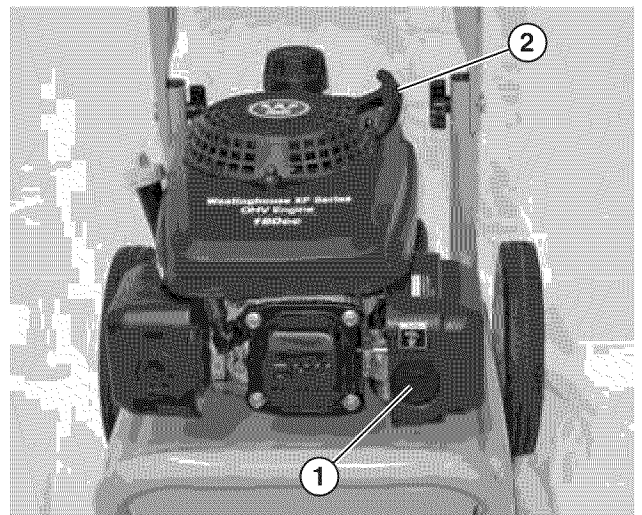

Figure 37 – Starting the Engine
- Press the primer bulb three times (see Figure 37).
- Firmly grasp and pull the recoil handle slowly until you feel increased resistance. At this point, apply a rapid pull on the recoil handle (see Figure 37).